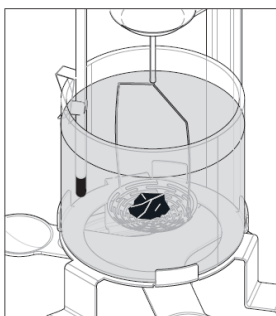

Figure 4.2-3
- Open the draft shield doors, place the solid in the holder (see figure 4.2-3). Ensure that no air bubbles adhere to the solid (remove any air bubbles with a fine brush).